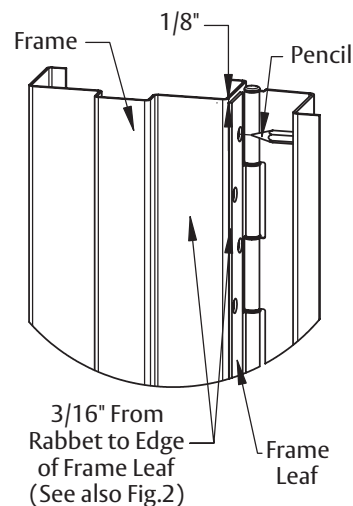

Fig. 1
A. Place hinge frame leaf on frame face. Position top of hinge $\frac{1}{8}$ " maximum below header. Place hinge firmly against face of frame. Position frame leaf edge $\frac{3}{16}$ " from rabbet as shown in (Fig. 1 & 2).